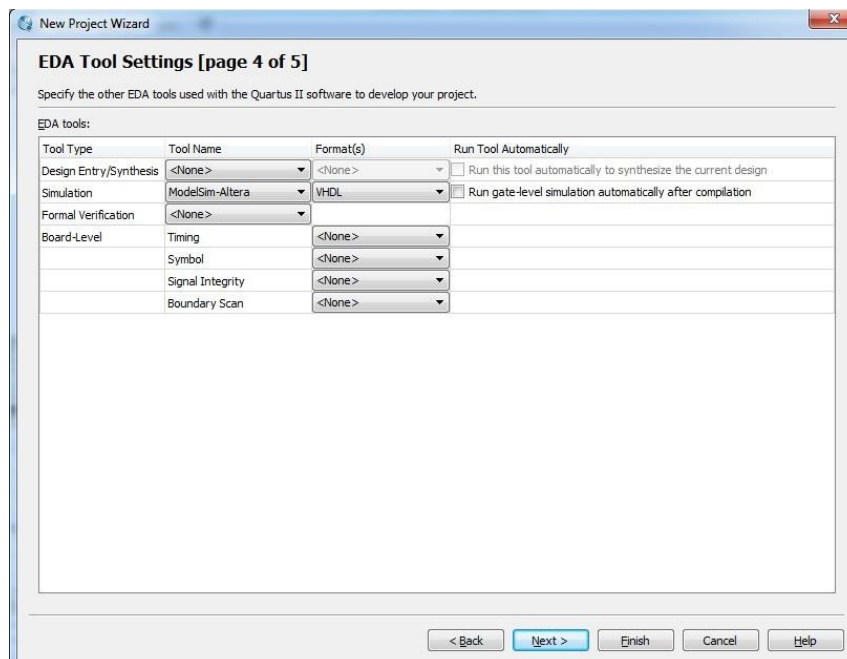

Figure 4
- Click **Next** to reach the window in Figure 4. Here you can specify the EDA tools you want to use. We will use ModelSim in this class, and the format is VHDL, so just leave the default settings